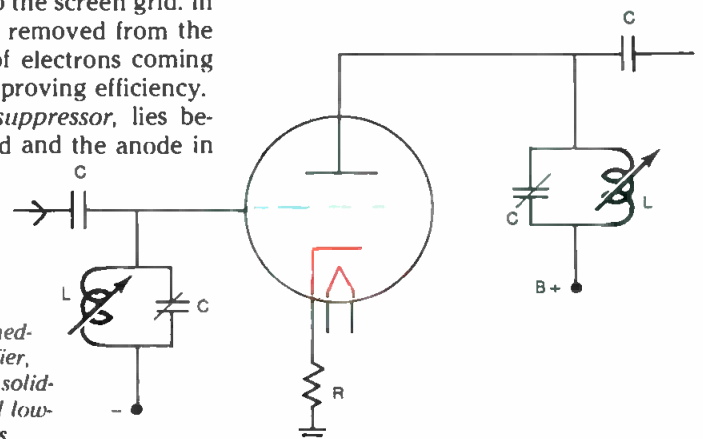

Figure 2. A triode, connected here as a tuned-grid, tuned-plate amplifier, could be replaced by a solid-state device in VHF and low-power UHF applications.
Components associated with grid tubes determine the frequency of operation. Networks of resistors (R), inductors (L) and capacitors (C) form the frequency-sensitive tank circuits of the RF amplifier. (See Figure 2).